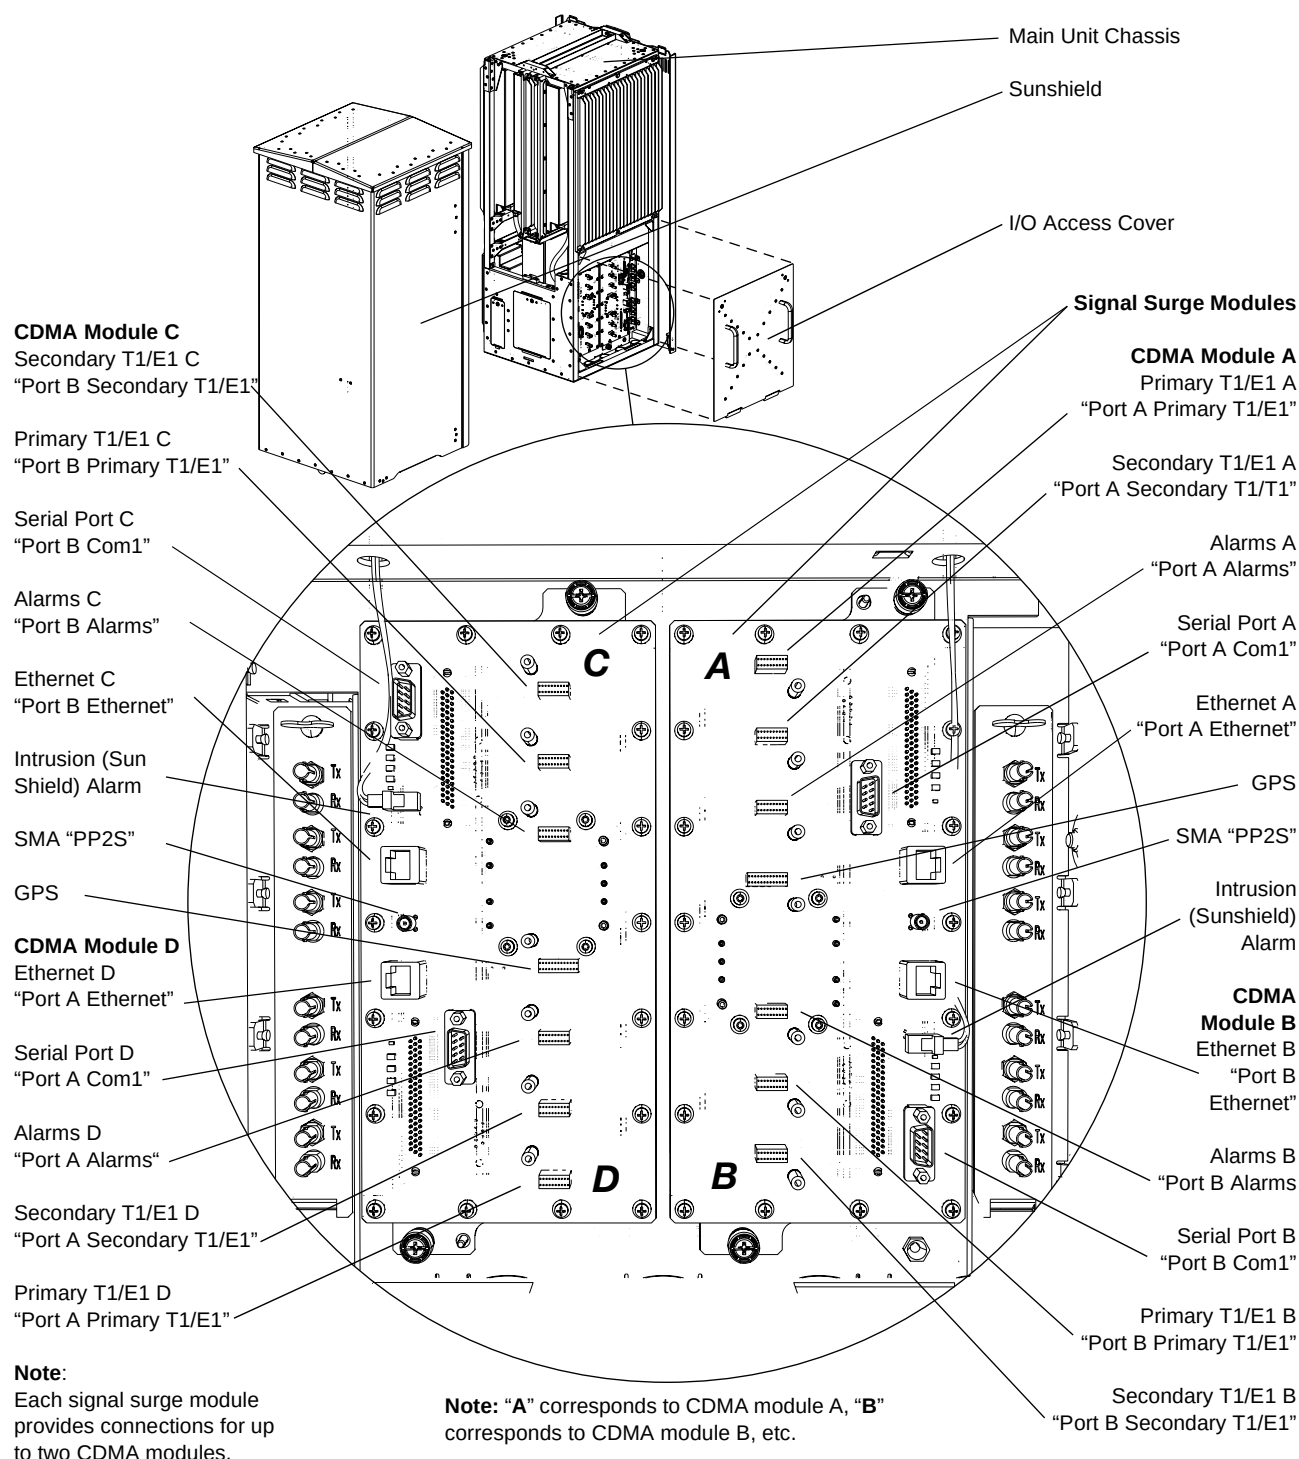

Figure 4–2 Signal Surge Modules
You install the daughter cards on the main unit signal surge modules. Figure 4–2 shows the location of the signal surge modules and the installation locations for the daughter cards. Some configurations will use only one signal surge module.
1. To remove the I/O access cover from the main chassis, turn each of the two screws (one at each top corner of the access cover) until the catch releases. For the location of the access cover, see Figure 4–2. Use the handles on the access cover to lift it away from the chassis.
4. Connect the daughter cards at the locations shown in Figure 4–2.